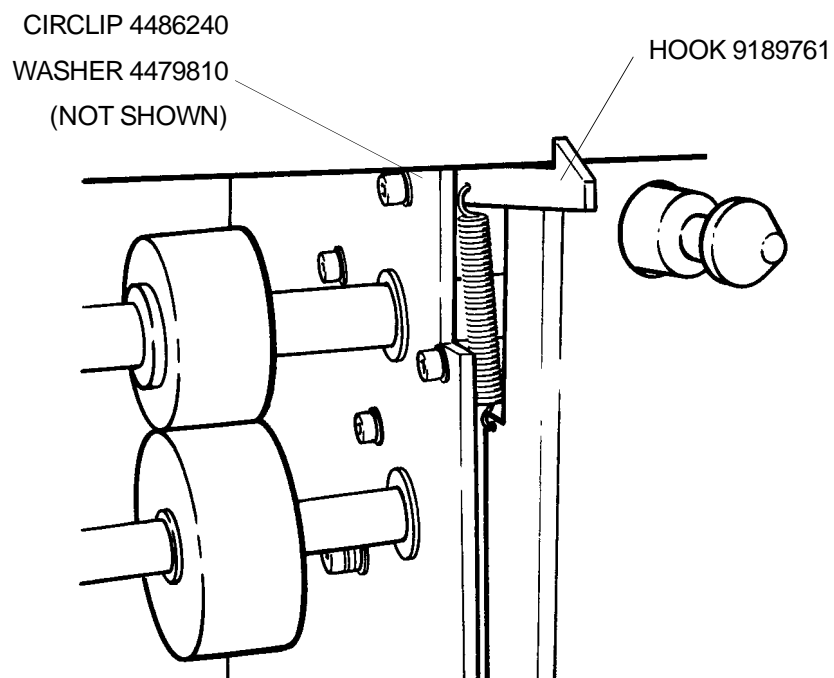

figure 9
18. Remove and discard parts indicated in figure 9. Install new parts.